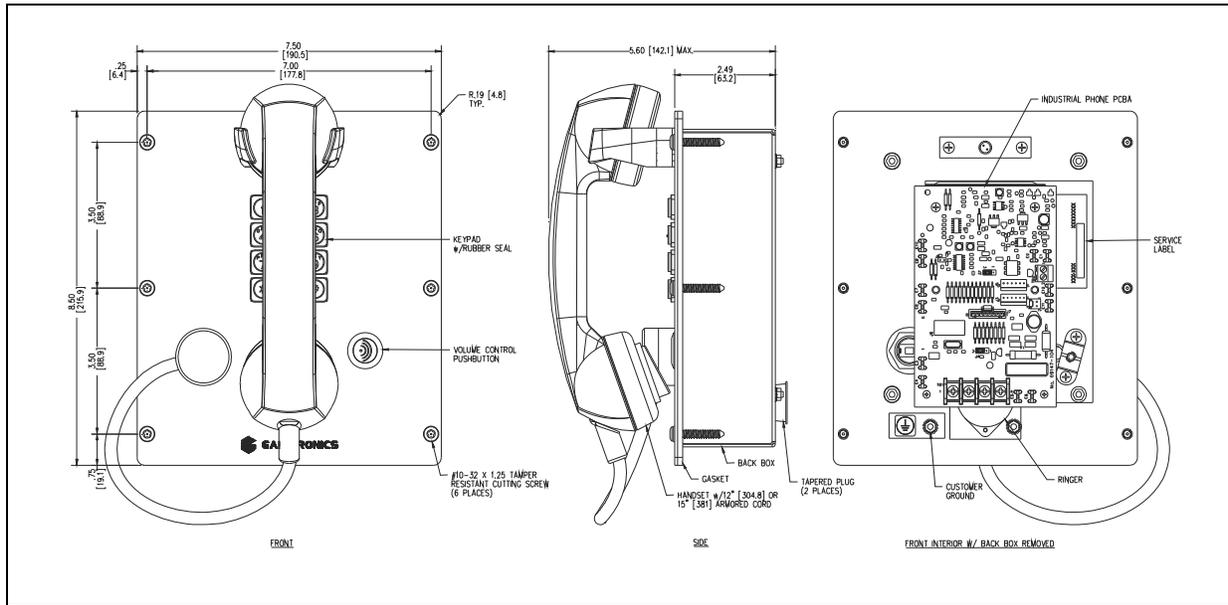
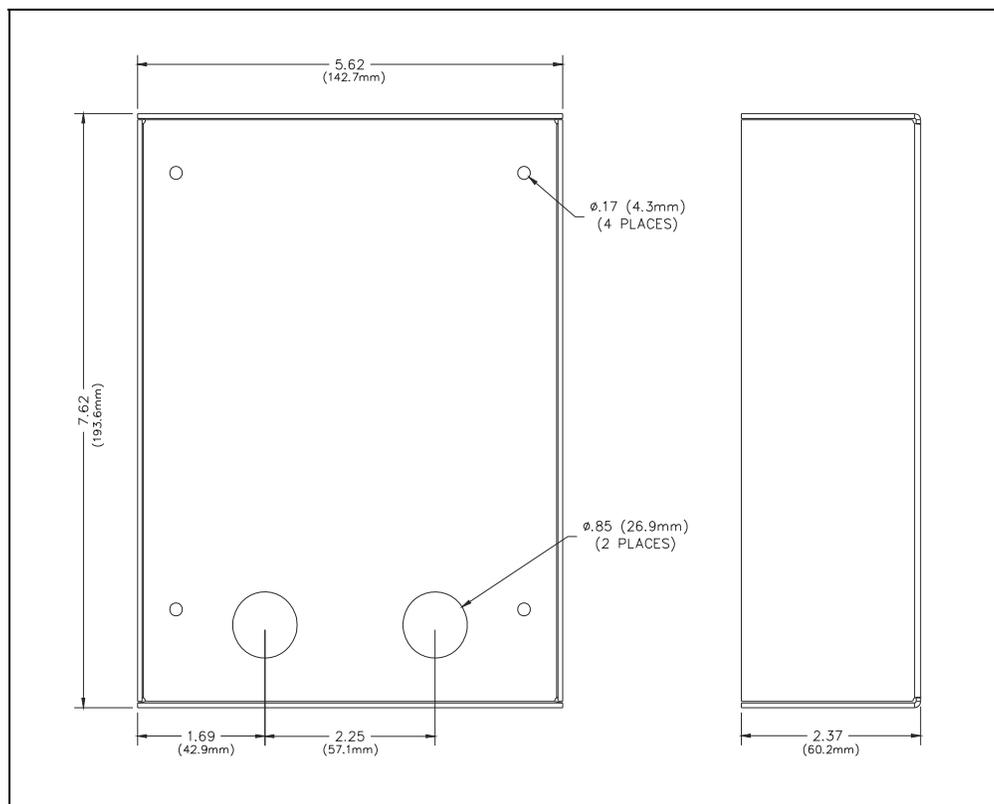

Figure 13. Model 276-002BH/-002BHAC Outline Drawing
Figure 14. Model 276-002BH/-002BHAC Dust Cover
1. Remove the four nuts from the back of the dust cover and remove it from the front panel (see Figure 13, and Figure 14).
2. Feed the telephone line through either cable entry hole in the dust cover (see Figure 14).